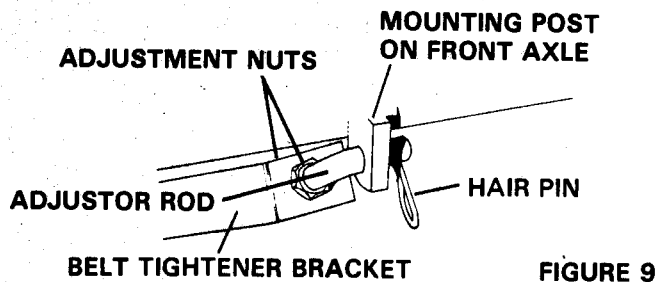
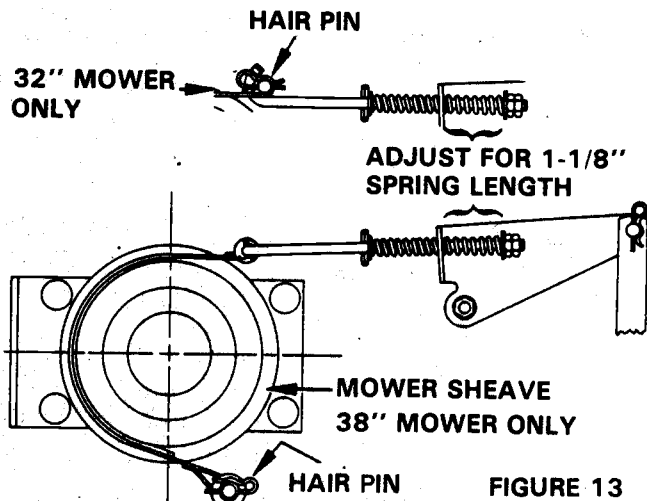

FIGURE 9
FIGURE 13
1. Lower the mower pan. Remove the hairpin cotter and washer from the stud on the attachment idler (Figure 9) and disconnect the mower brake link.
2. Raise the mower deck. Loosen the belt fingers on the tractor PTO sheave, slide them to one side, and remove the mower belt from this sheave. See Figure 9.
4. Adjust mower belt for proper center distance. See Figure 9 and 13. Adjust nuts on the adjustor rod to move mower pan forward or backward. Adjust 1 to 1 1/2 inch clearance between belt as shown in Figure 13 with mower pan in highest position.
MOWER BELT — FIGURES 13 & 14
3. Remove the hair pin or cotter pin securing the brake band and rotate the band away from the sheave. See Figure 13.
1. Position the replacement Mower Belt around the sheave on the mower pan. Reposition the brake band around the sheave and secure with the cotter or hair pin. See Figure 13.
MOWER BRAKE ADJUSTMENT — FIGURE 13
With the Mower Belt adjusted and the Implement Power Clutch disengaged, adjust the nut on the end of the brake rod until the spring is $1\frac{1}{8}$ inch in length. See Figure 13.